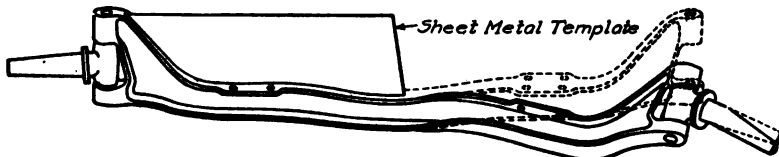

Fig. 58. Template for Showing if Axle Is Bent
**Straightening an Axle.** When an axle is bent, as in a collision, a template is useful in straightening it. This can be cut from a thin sheet of metal, light board, or heavy cardboard. It is an approximation at best and should be used with great care. Fig. 58 shows such a template applied to an axle which needs straightening.